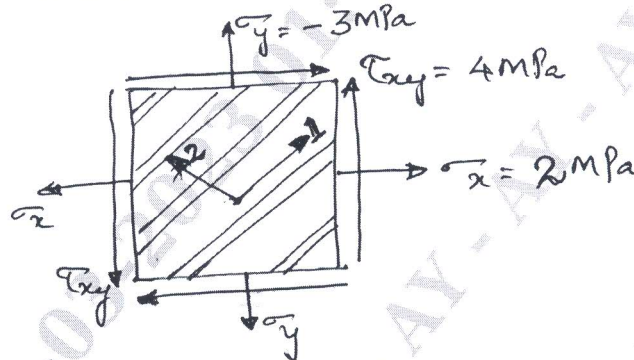

Fig.Q6(b)
- b. For a 60° angle lamina of graphite/epoxy as shown in Fig.Q6(b). Find the: (i) Compliance matrix (ii) Global strain. If the applied stress are $\sigma_x = 2$ MPa, $\sigma_y = -3$ MPa and $\tau_{xy} = 4$ MPa, find: (iii) Local stress (iv) Local strain. The properties of the lamina are $\gamma_{12} = 0.28$, $G_{12} = 7.17$ GPa, $E_1 = 181$ GPa, $E_2 = 10.3$ GPa.